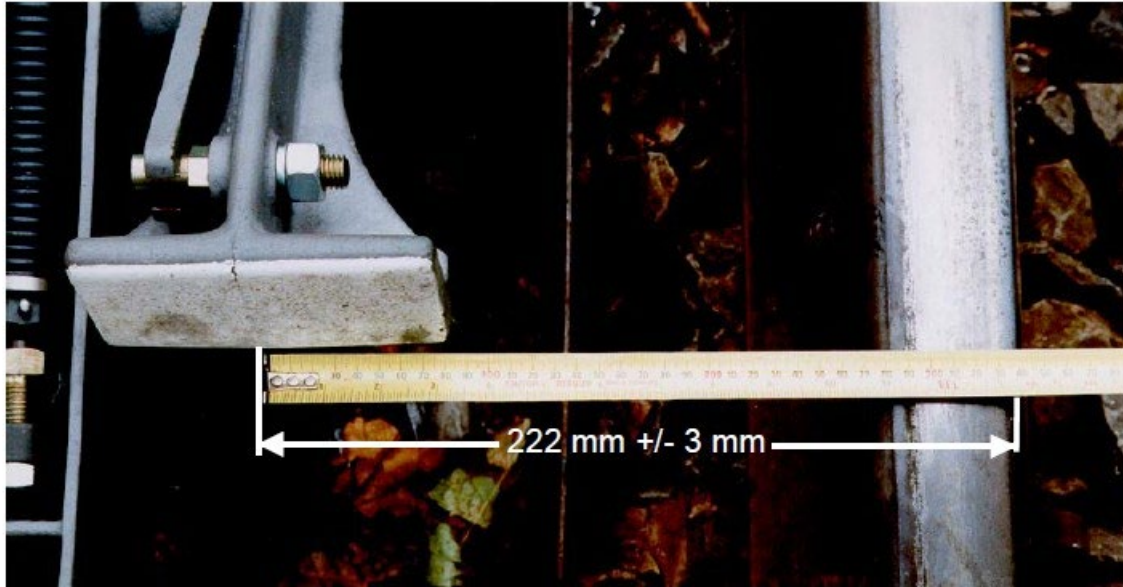

Figure 2 – Distance from Rail
- b) Check the centre of the Trip Arm is 222 mm +/-3 mm from the inside of the running rail (Figure 2).